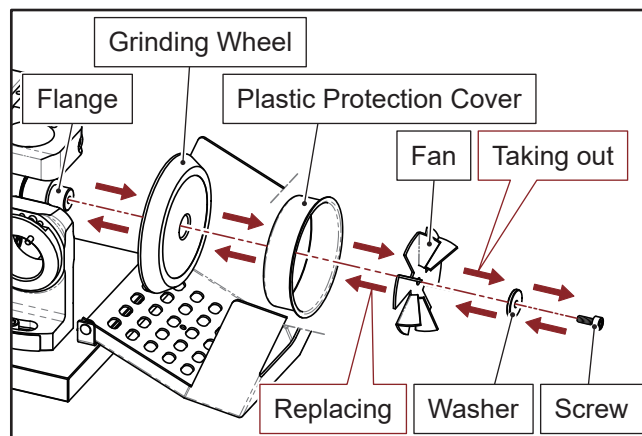

Fig. 9-3
④ Loosen the screw from the grinding wheel to take off the grinding wheel. (Fig. 9-3)
⑤ Use clean cloth to clean the flange and the contact surface of the grinding wheel.
⑥ Replace the new grinding wheel and fasten the screw. (Fig. 9-3)